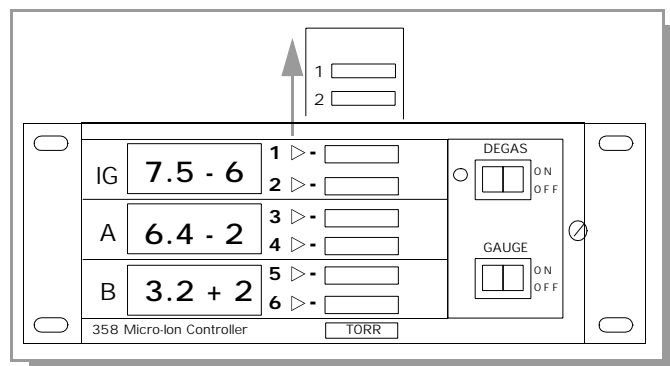

Figure 2-4 Controller Front Panel Showing Removal of Units of Measure Label Card.
7. Slip the label card out of the top of the front panel and apply the appropriate pressure units label (see Figure 2-4 on page 2-2).